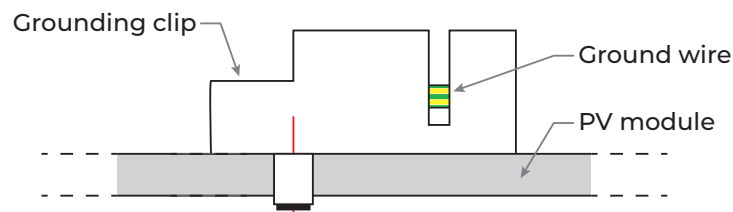

Figure 2
- As shown in the Figure 2, the grounding clip assembly consists of a slider, base, and self-captivating thread-cutting screw or 8–32 screw and hex nut. The grounding clip accepts solid uninsulated copper wire sizes 10 or 12 AWG.